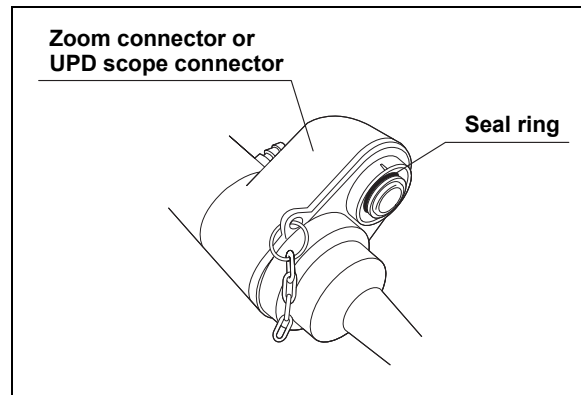

Figure 3.17
1. Confirm that the seal ring on the zoom connector is not scratched (see Figure 3.17).
1. Confirm that the seal ring on the UPD scope connector is not scratched (see Figure 3.17).